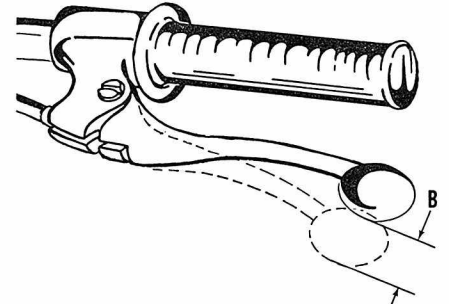
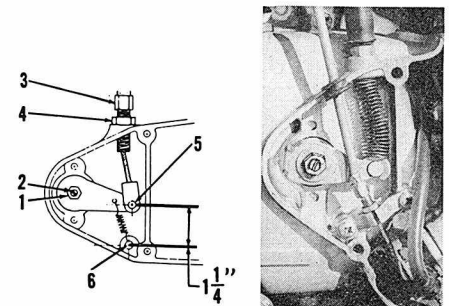

Fig. BS2-9—Clutch hand lever should have  $\frac{3}{8}$ – $\frac{5}{8}$  in. free play at B.
Fig. BS2-10—Clutch adjustment points are shown. Refer to text for adjustment method.
**CLUTCH CONTROLS.** The clutch is located on right end of transmission input shaft. The hand lever should have  $\frac{3}{8}$ – $\frac{5}{8}$  in. free play at (B—Fig. BS2-9).
To adjust the clutch, remove the carburetor cover from right side of engine, loosen lock nut (4—Fig. BS2-10). Turn cable adjuster (3) until the distance between pivot pin (5) and spring pin (6) is  $1\frac{1}{4}$  inches, then tighten lock nut (4). Loosen lock nut (1) and turn the adjusting screw (2) until free play at end of hand lever is  $\frac{3}{8}$ – $\frac{5}{8}$  inch (B—Fig. BS2-9). Make certain nut (1—Fig. BS2-10) is tightened after adjustment is complete.